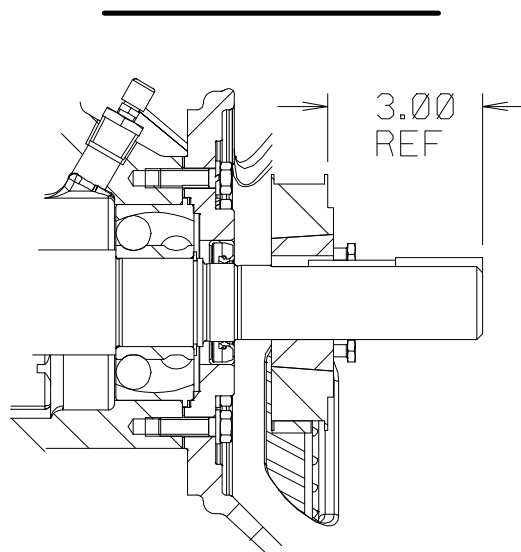

Figure 11. Drive Sprocket Positioning
Install the key (31, Figure 5) in the shaft keyway, making sure to leave room in the keyway for the drive key (23, Figure 5). Install the sprocket (24) and bushing (25) on the shaft to the dimension shown in Figure 11.
*When properly installed to the dimension shown in Figure 11, the key (23, Figure 5) **will not** extend fully through the bushing. This is an acceptable fit for this application.*